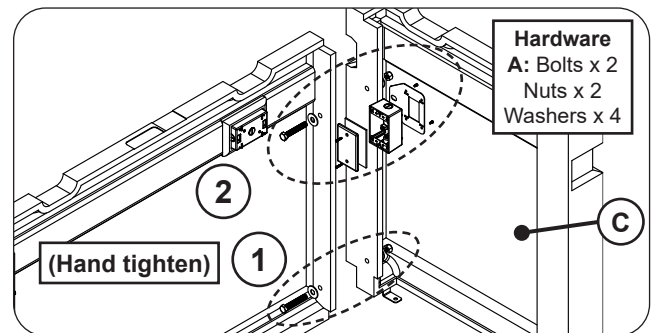
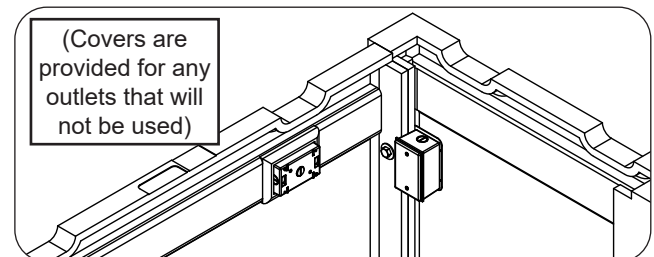

Fig. 8-3 Assemble right side wall and outlet box
Fig. 8-4 Right side wall and outlet box installed
1. Orient the right side wall (C) and repeat the hardware installation process (hardware kit A) for the bottom hardware first. Ensure the top pilot holes are also aligned. Hand tighten only. See Fig. 8-3, step 1.
An outlet box assembly is provided and requires installation. Assemble the box as shown using a flathead screwdriver, then repeat the hardware installation process to secure both the top of the right wall and the outlet box in place. Hand tighten only. See Fig. 8-3, step 2 and Fig. 8-4.